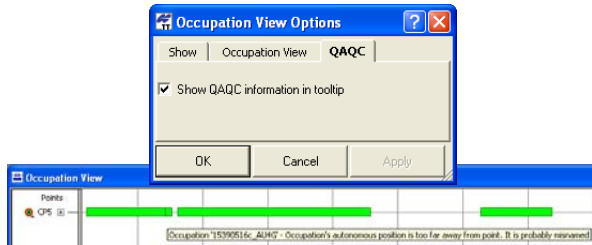

Figure 4-55. Occupation View QAQC
4. On the *QAQC* (Quality Analysis Quality Control) tab, if desired, enable the following setting (Figure 4-55 on page 4-55). Click **Apply** to save the setting.